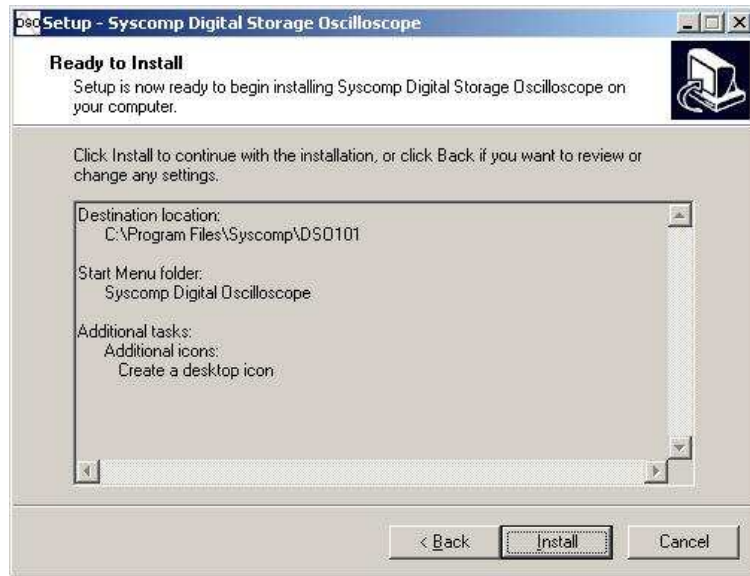

Figure 37: Ready To Install
- Click on Next>>. The screen of figure 37 appears.